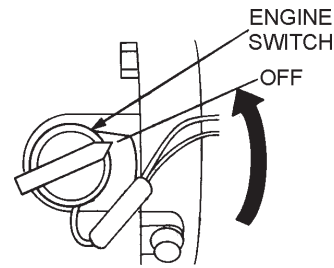

Figure 23. Engine ON/OFF Switch (OFF)
4. Turn the engine ON/OFF switch to the "**OFF**" position (Figure 23).